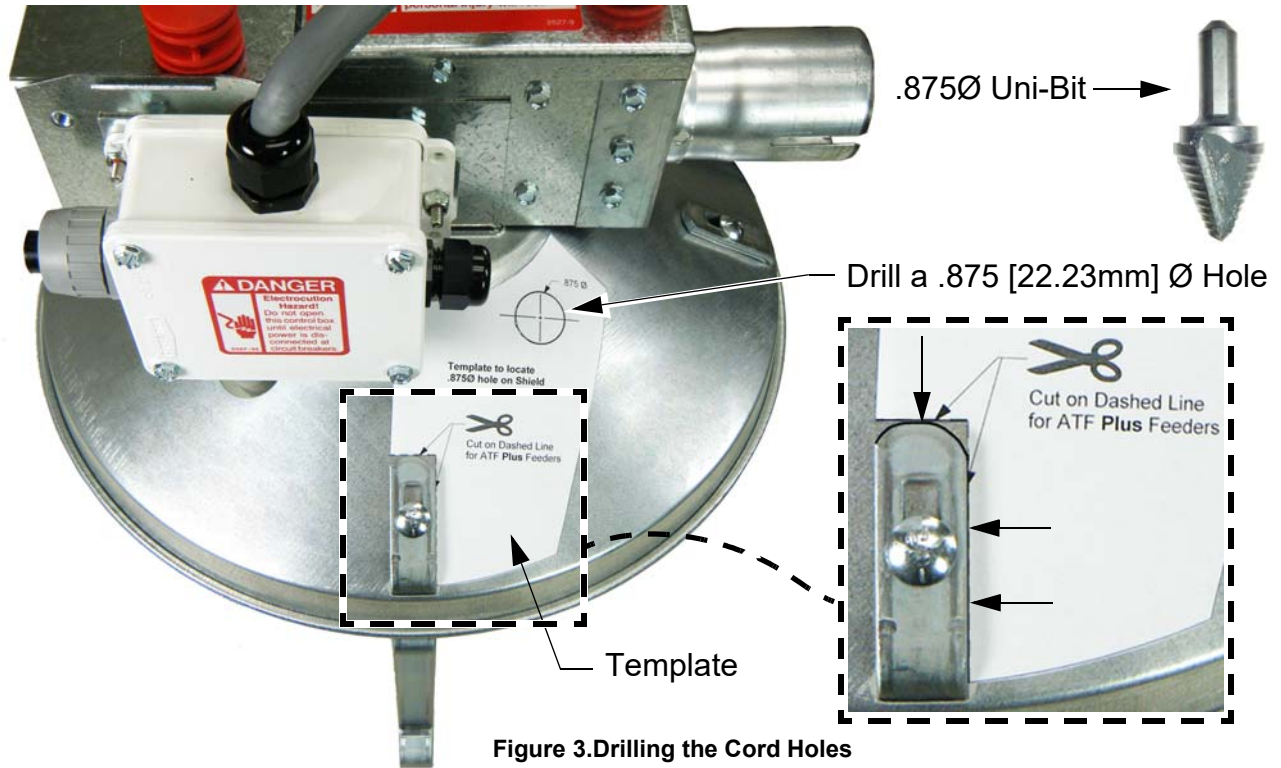

Figure 3. Drilling the Cord Holes
- 1.Line up the Cord Hole Template you cut out earlier as shown in **Figure 3** below.